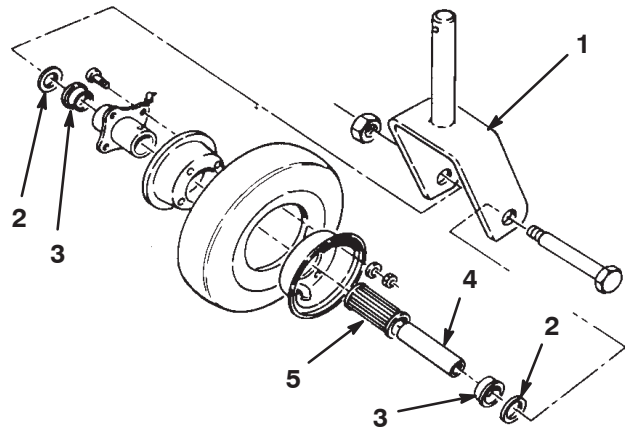

Figure 24
1. Remove the locknut from the capscrew holding the castor wheel assembly between the castor fork (Fig. 24). Grasp the castor wheel and slide the capscrew out of the fork.
2. Tip the wheel to the side and allow the spanner bushing (Fig. 24) to fall out.
3. Remove one bearing retainer from the wheel hub and allow the bearing to fall out. Remove the bearing retainer from the opposite side of the wheel hub (Fig. 24).